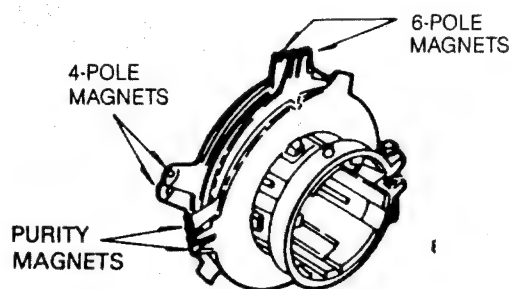
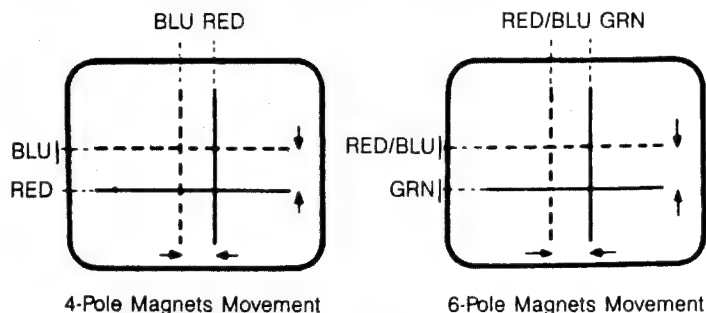

Fig. 11 CONVERGENCE MAGNET ASSEMBLY
Fig. 12 CENTER CONVERGENCE BY
3. Adjust two tabs of the 4-pole Magnets to change the angle between them (See Fig. 11) and superimpose red and blue vertical vertical lines in the center area of the picture screen. (See Fig. 12)
4. Turn both tabs at the same time keeping their angles constant to superimpose red and blue horizontal lines at the center of the screen. (See Fig. 12)